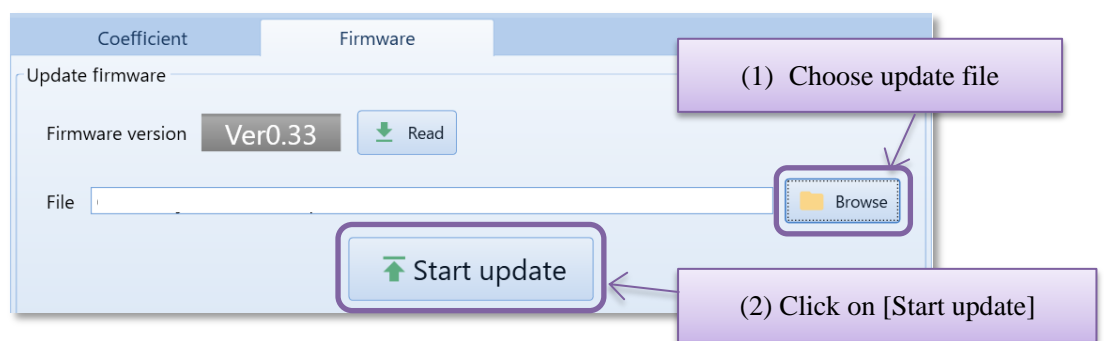

Figure 6.55 Firmware update
- (1) Open “Troubleshooting” window.
- (2) Choose “Firmware” in “function selection”. (Figure 6.55)